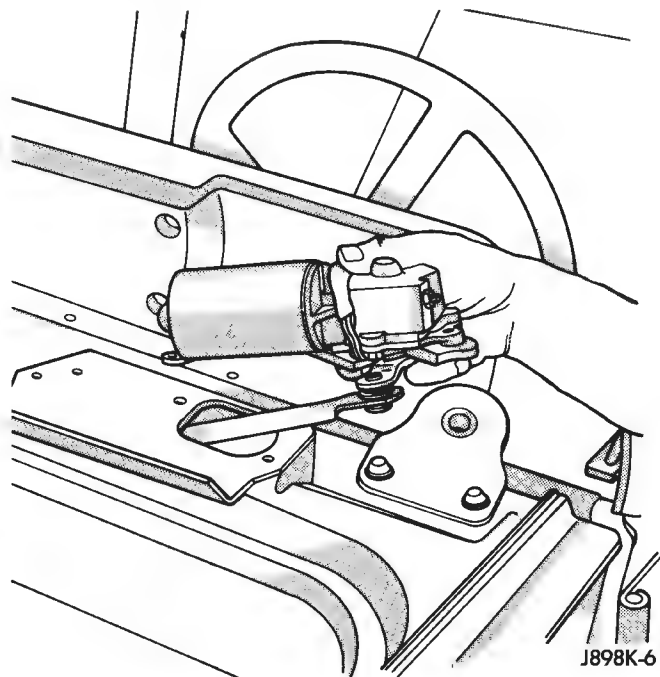

Fig. 9 Windshield Wiper Motor and Drive Link
(9) Grasp motor and pull motor and drive link out of access hole (Fig. 9).